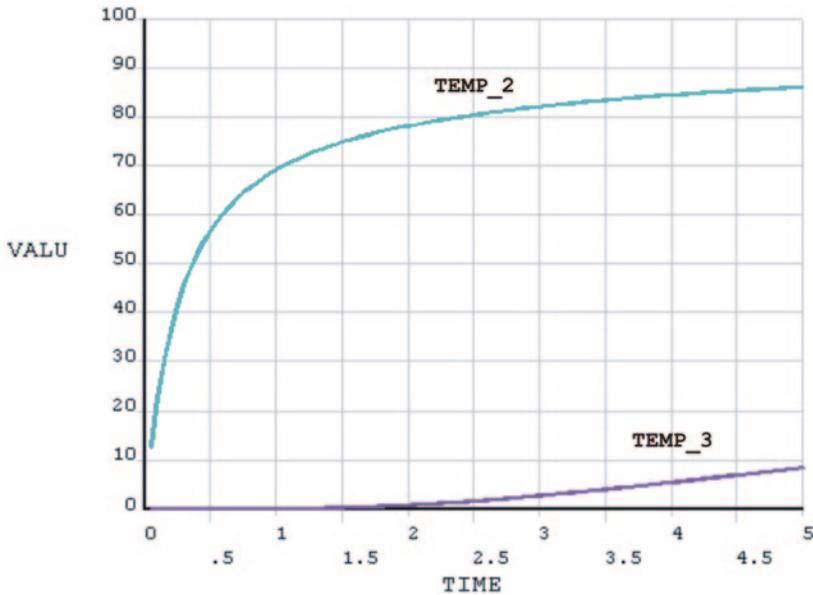

Fig. 5.37 Temperature variation over time at two nodes
- The plot appears in the *Graphics Window*, as shown in Fig. 5.37.